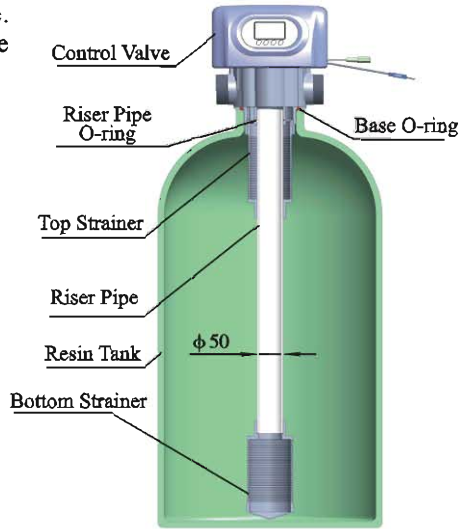

Figure 1-1
- ①The softener should be located close to drain.
- ②Ensure the unit is installed in enough space for operating and maintenance.
- ③Brine tank need to be close to softener.
- ④The unit should be kept away the heater, and not be exposed outdoor. Sunshine or rain will cause the system damage.
- ⑤Please avoid to install the system in one Acid/Alkaline, Magnetic or strong vibration circumstance, because above factors will cause the system disorder.
- ⑥Do not install the filter or softener, drain pipeline in circumstance which temperature may drop below 5°C, or above 50°C.
- ⑦One place is recommended to install the system which cause the minimum loss in case of water leaking.
①Install control valve
- a. As the Figure 1-1 shows, select the riser pipe with 50 mm OD, glue the riser pipe to the bottom strainer and put it into the mineral tank, cut off the exceeding tube out of tank top opening. Plug the riser tube in case of mineral entering.